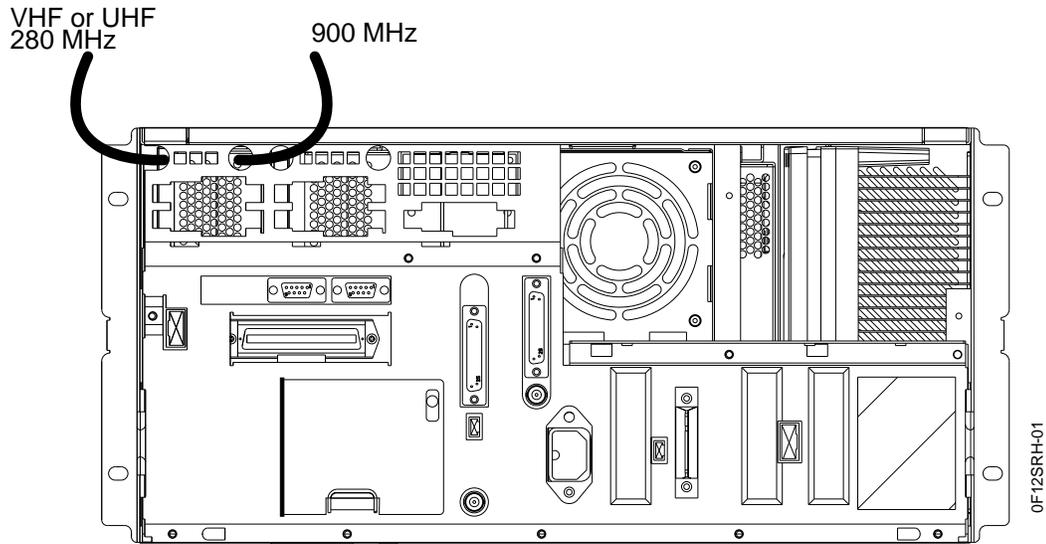

Figure E-4: Routing for the Receive Cable
4. At the rear of the station, route the receive input RF cable from the back of the antenna bracket through the hold in the station backplane (see Figure E-4):